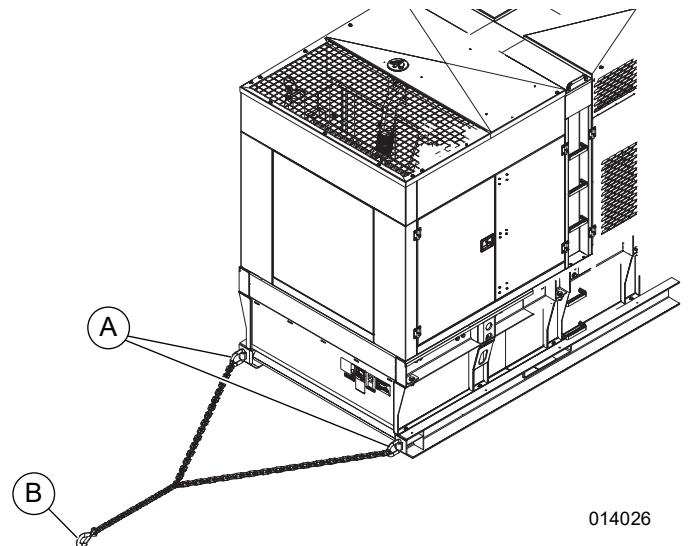

Figure 3-22. Dragging the Unit
1. See Figure 3-22. Attach a suitable chain to each D-Ring (A). D-Rings are located on the front and rear of the machine.
2. Attach the chains to a suitable tow vehicle (B).